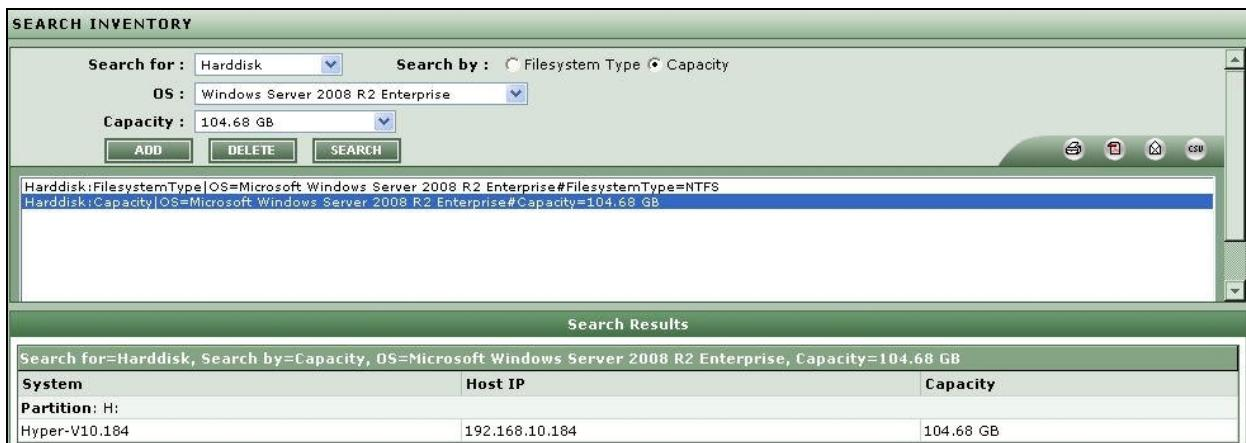

Figure 2.36: Inventory search of a harddisk through capacity wise
3. On the other hand, if you select the **Capacity** option from **Search by**, a **Capacity** list box will appear in this page as depicted in Figure 2.36. Once you select an operating system from the **OS** list, the **Capacity** list will be automatically populated with the hard disk capacity of all the managed systems that are running the chosen OS. Choose a hard disk capacity from the **Capacity** list.